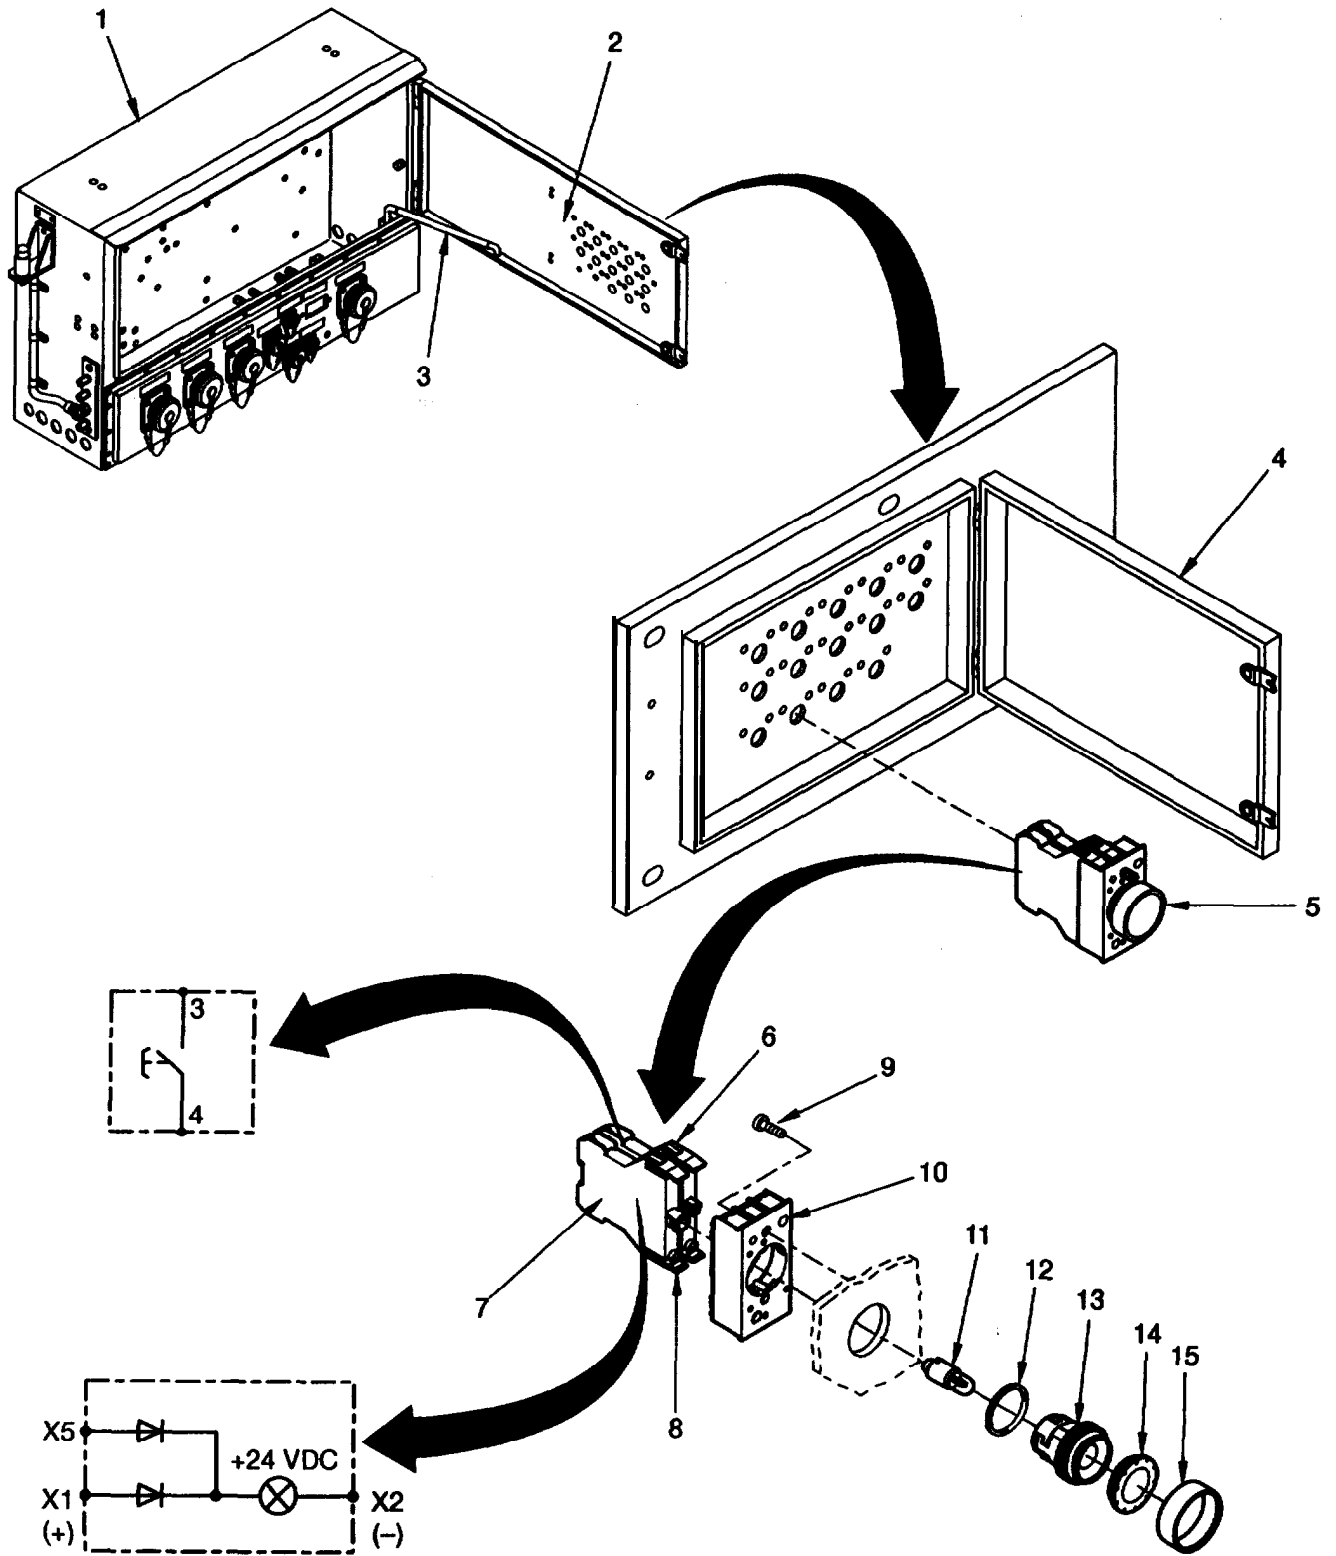

Figure 4-39 Pushbutton Switch with Light Indicator.
- a. Remove stanchion by PDU (1, figure 4-39).
- b. Open access door (2) and secure with prop (3).
- d. Open indicator panel cover (4).
- e. Record labeling and position of cables to bulb holder (7) and pushbutton (6).
- g. Use a screwdriver to push in upper and lower (8) closures first using your hand to support the bottom of the bulb holder (7) and pushbutton until they snap in. Remove bulb holder (7) with bulb (11) and pushbutton (6) from base (10).
- h. Loosen screws (9) on base (10).
- i. Unlock lamp cap with housing (13), ring (12), colored plate (14) and ring (15) on front of panel by turning counterclockwise.
- j. Pull housing (13) out of front of panel. Remove base (10) from back of panel.